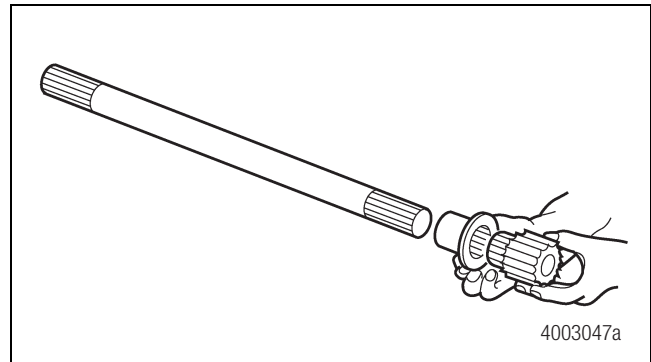

Figure 3.45
1. Install the coupling and sun gear onto the axle shaft. Figure 3.45.